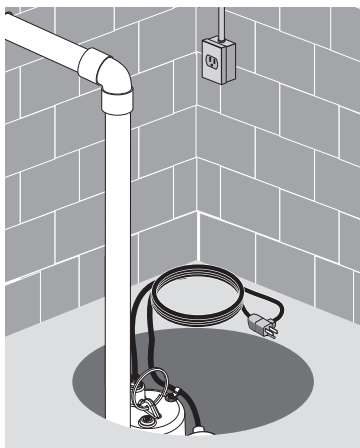

Figure 4
8. Connect power supply. The pump requires a 115V, 60 Hz, 15 amp individual, grounded circuit and should be dedicated to the sump pump. (Figures 4 and 5). The pump is supplied with a 3-wire cord set with grounding-type plug. Plug the switch directly into the outlet and plug the pump into the opposite end of the switch's plug.